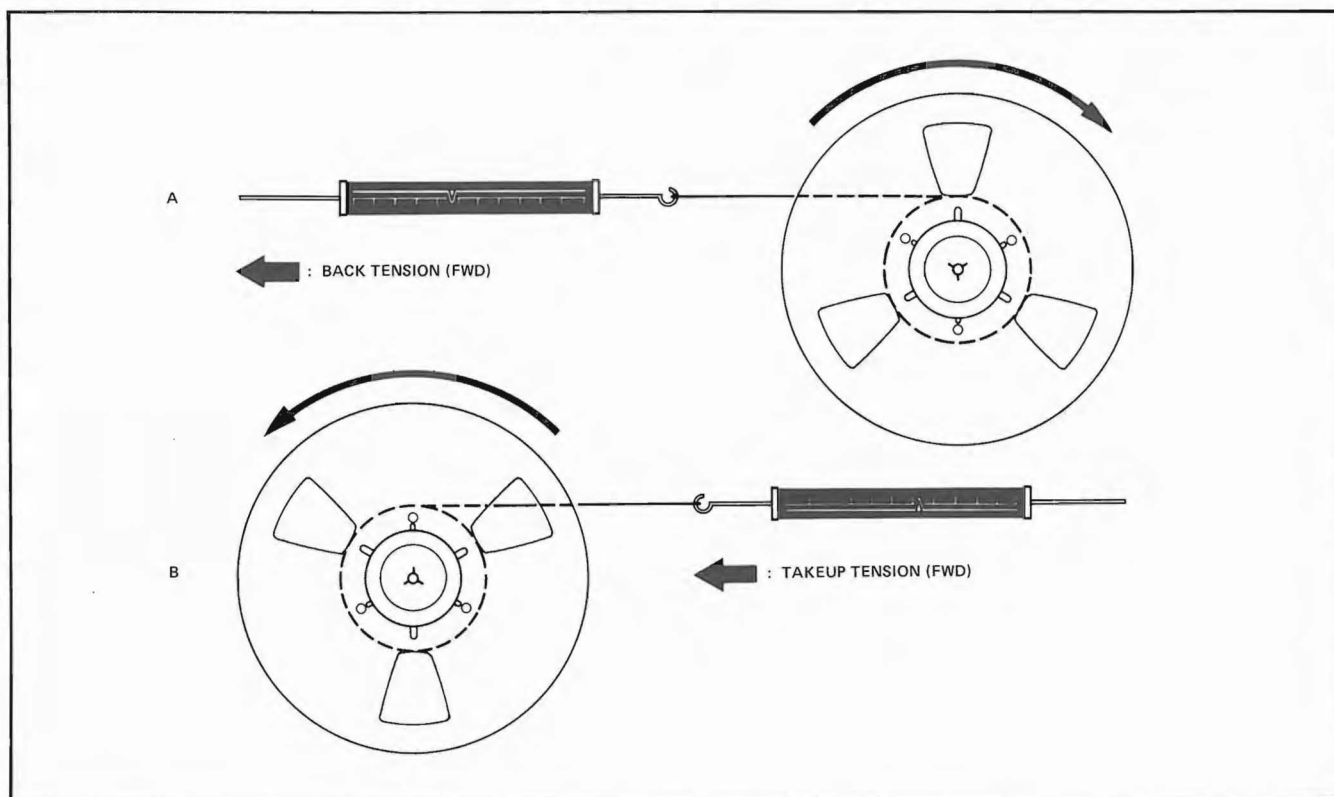

Figure 5-12. Tension Measurement
5. Refer to Figure 5-12 and, with a steady, smooth motion, pull the spring scale away from the reel against the motor torque as shown in the figure.
5. Allow the rotation of the reel to draw the scale toward the reel hub. Then hold back on the spring scale with enough force to get a reading of the motor force on the spring scale (see Figure 5-12).